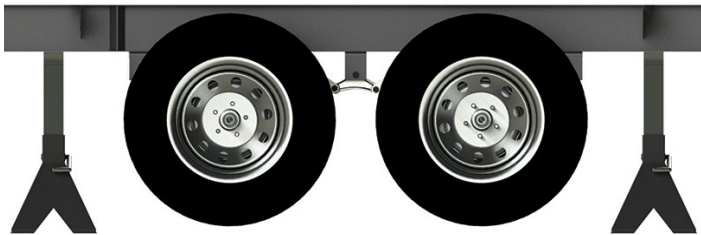

Fig.1
1. Using the properly-rated floor jacks, lift the trailer according to the manufacturer's recommendation until the wheels are no longer in contact with the ground (Fig.1).